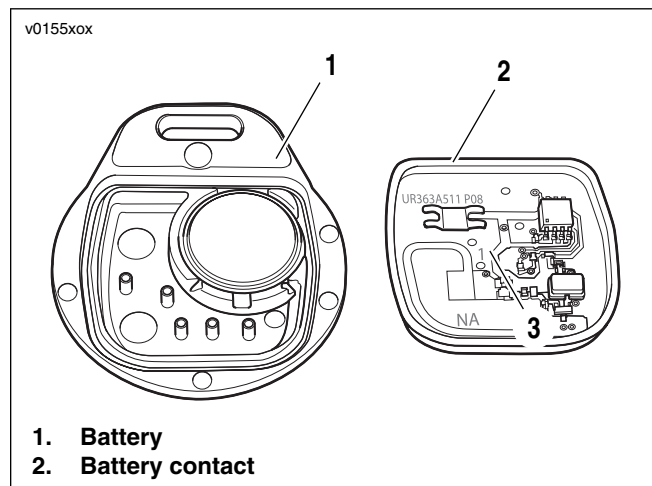

Figure 8-74. Open Key Fob Case (typical)
2. See Figure 8-74. Replace battery (1).